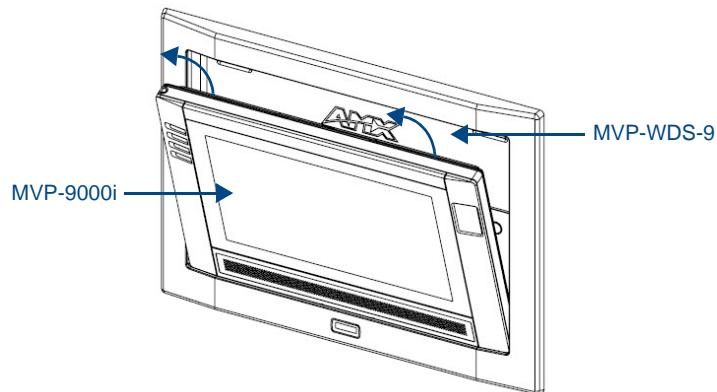

FIG. 20 Ejected position for the MVP-9000i
3. To release the touch panel, unlock the touch panel and wait for the Wall Docking Station to pivot the touch panel away from the wall (FIG. 20).
- When disconnecting from a Wall Docking Station, wait for the Wall Docking Station to pivot the touch panel away from the wall (FIG. 20).